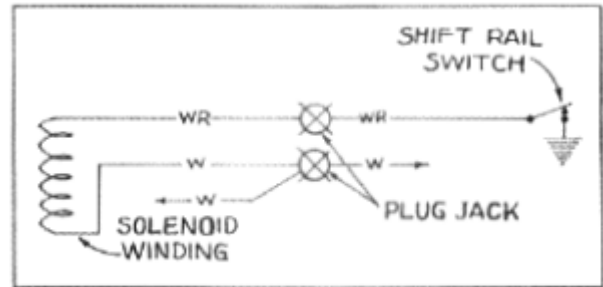

Figure 2
The abutment indicator is very simple in its testing since it is composed of a single circuit consisting of solenoid and a switch in series. This circuit is shown in Figure 2.
Figure 2. Connect one clip of test lamp (using No. 63 bulb or equivalent) to battery cable terminal and touch other clip to the (W) prong of jack. This places the No. 63 bulb in series with the abutment indicator solenoid winding and the bulb will burn with a red glow if the circuit is normal. No light indicates an open circuit and a bright light indicates a short circuit.
- 2 - The abutment indicator solenoid and its upper harness circuit can also be readily tested with an ohmmeter. Balance the ohmmeter on the 0-1000 scale or smaller and connect its leads to the (W) and (WR) prongs of the upper harness plug jack. A normal circuit should read approximately 10 ohms.